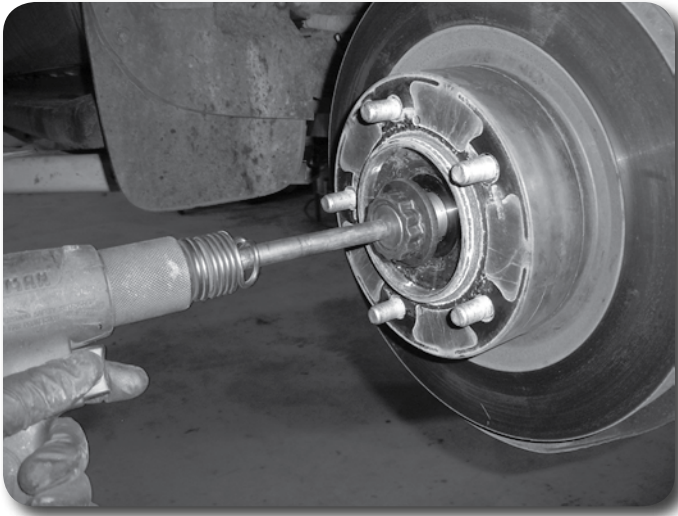

Figure 12
16. Unseat the axle shaft from the knuckle. Use an air hammer with blunt nose punch (recommended) or a hammer and punch, unseat the axle from the hub **Figure 12**. A large rubber mallet can be used also, but make sure to thread the axle nut on flush with the end of the axle to protect the threads.